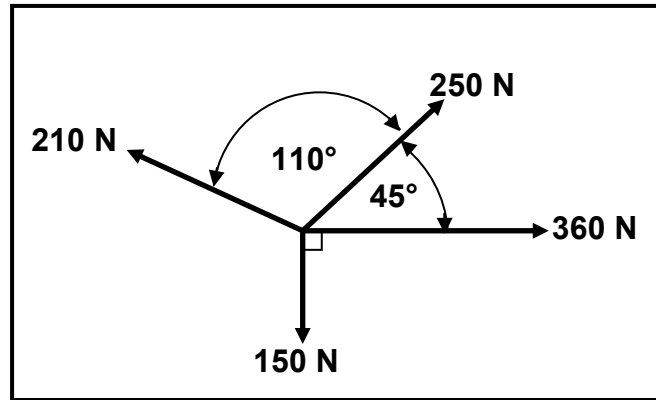

FIGURE 7.1
7.1 Four forces of 150 N, 210 N, 250 N and 360 N respectively, as shown in FIGURE 7.1 below, act on the same point. Calculate the magnitude and direction of the equilibrant for this system of forces.